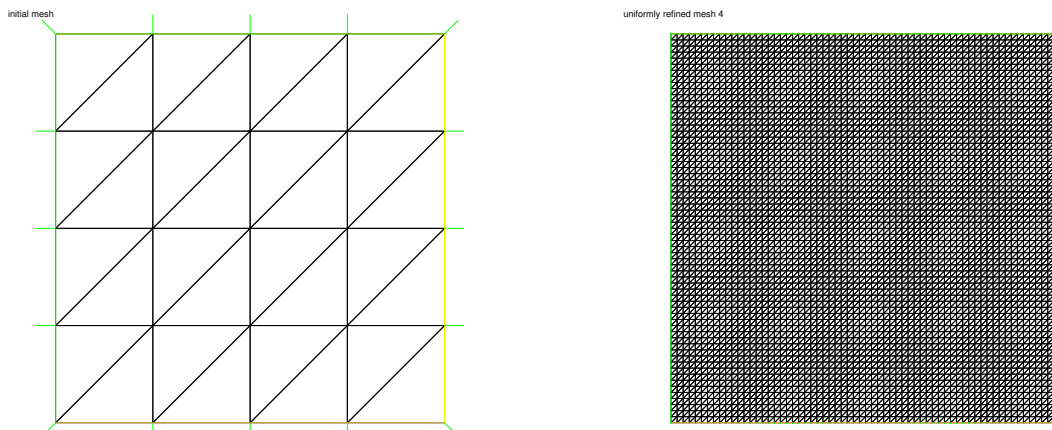

Figure 1: Initial mesh (left) and finest refined mesh (right)
1. One should obtain the results as in Figures 1 and 2. In addition, one should observe that the FEM solution is more and more accurate on uniformly refined meshes.